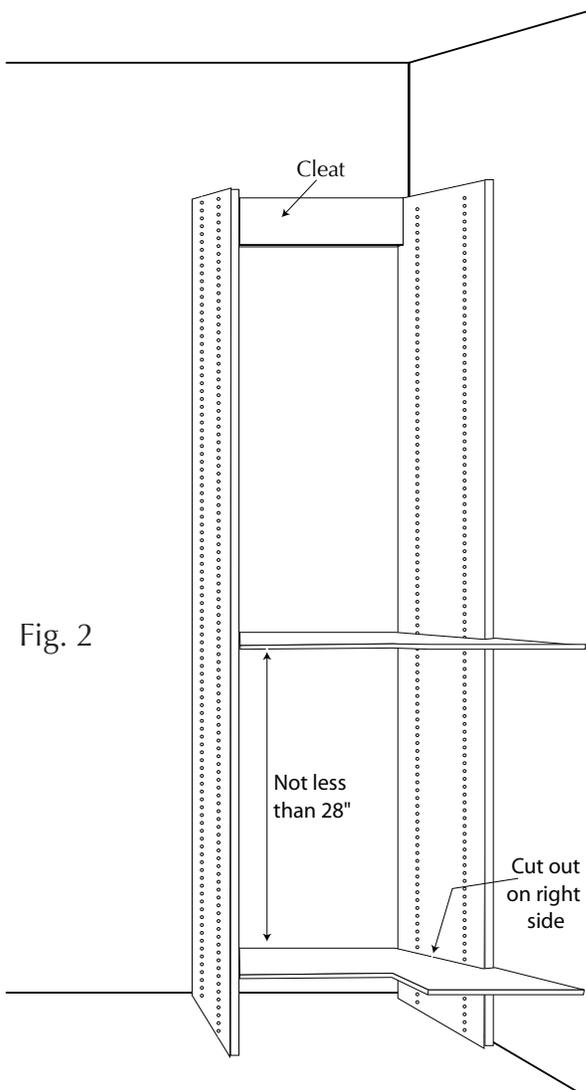

Fig. 2
1. Lay the side panels down on the floor and fasten two of them together with your trimmed 29-3/8" cleat and two (2) corner shelves, creating a 30-5/8" wide tower. Secure cleat with one HiLow Screw through each side panel. Stand the tower up and place it in the corner. See Fig. 2.